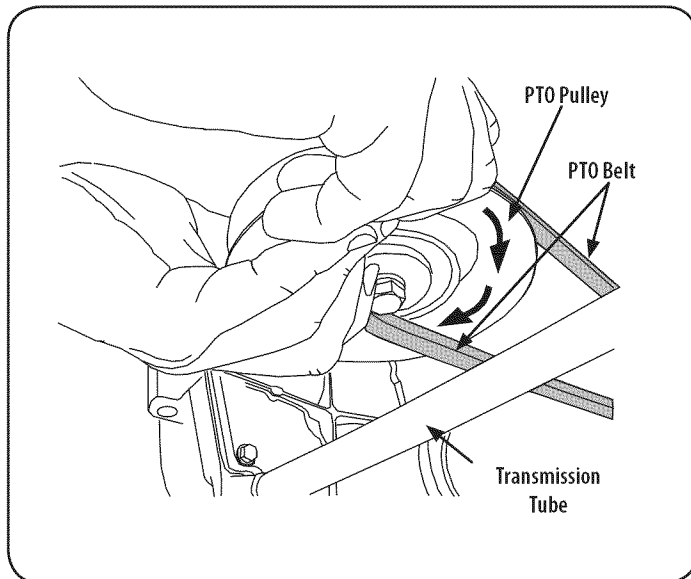

Figure 35
- d. While still holding the belt downward, continue turning the PTO pulley until the belt is rolled off the pulley. Refer to Figure 35.
11. Pull the right side of the belt rearward and place the narrow V side of the belt into the PTO pulley. See Figure 35.
12. While holding the belt and pulley together, rotate the pulley to the left (See Figure 35). Continue holding and rotating the pulley and belt until the belt is fully rolled into the PTO pulley.